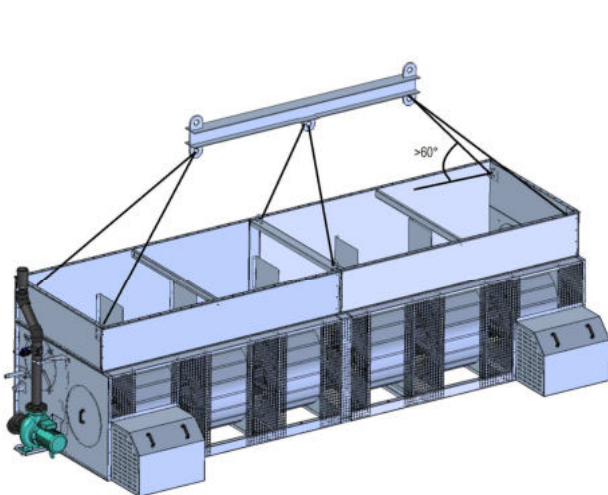

Fig.1
On units made up of several blocks, the movement of the lower section, the water collection basin, will be performed using all the eyebolts and adjustable chains, considering that the center of gravity of the unit is decentralized due to the presence of the fan unit on one side of the unit, fig.1 and 2.
**Note:** If there are central eyebolts as in fig.1, they must be removed before assembling the upper section to the lower section.